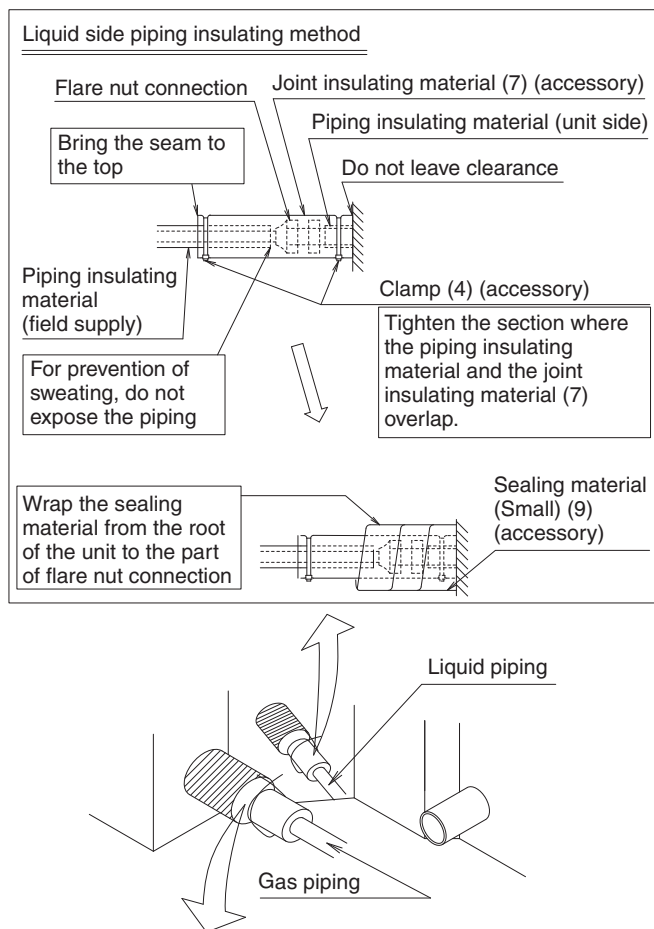

Fig. 22
- After leak test, referring to **Fig. 22**, insulate both the gas and liquid piping connection with the attached joint insulating material (6) and (7) to prevent the piping from getting exposed.